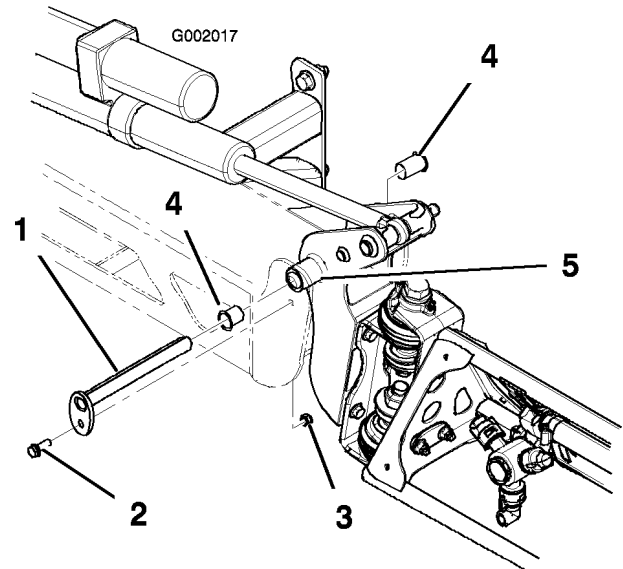

Figure 72
3. With the weight of the boom supported, remove the bolt and nut securing the pivot pin to the boom assembly (Figure 72). Remove the pivot pin.
5. Remove and inspect the nylon bushings from the front and back sides of the pivot bracket (Figure 72). Replace any damaged bushings.
7. Install the boom and pivot bracket assembly into the center frame, aligning the openings (Figure 72).